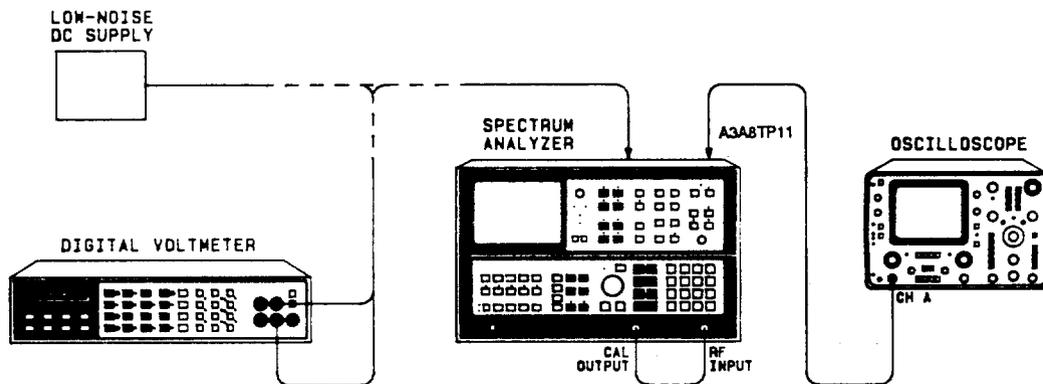

FIGURE 74. ANALOG-TO-DIGITAL CONVERTER ADJUSTMENTS SETUP
1. Position instrument upright as shown in Figure 74, and remove top cover. Install A3A8 Analog-to-Digital Converter Assembly on extender board.